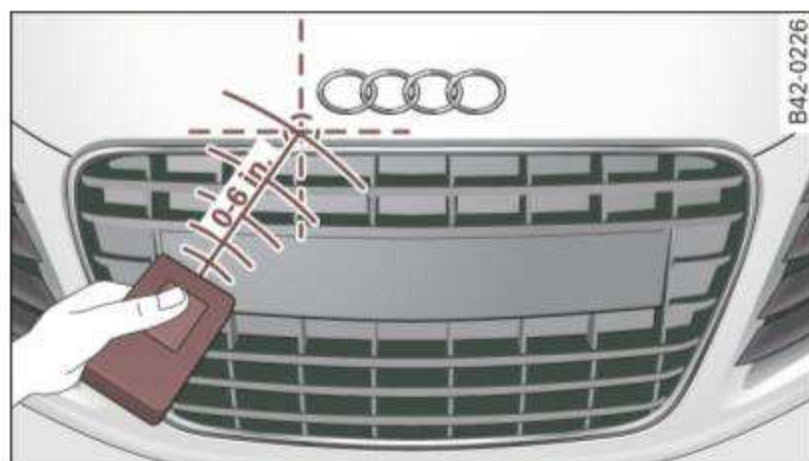

Fig. 82 Front bumper, driver side: location of transmitter unit
6. Hold the *original remote control* at a distance between 0-6 in. (0-15 cm) from the bumper below the appropriate headlight for your vehicle ⇒ fig. 82 (use the shortest distance possible).